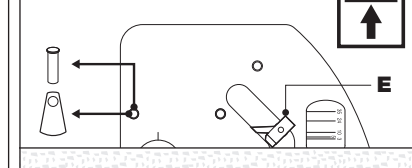

Fig. 5a
Offset Marking – (Fig. 5a – 5d)
- When female is in position place male into position and measure gap between the two-front face - **(Fig. 5a)**